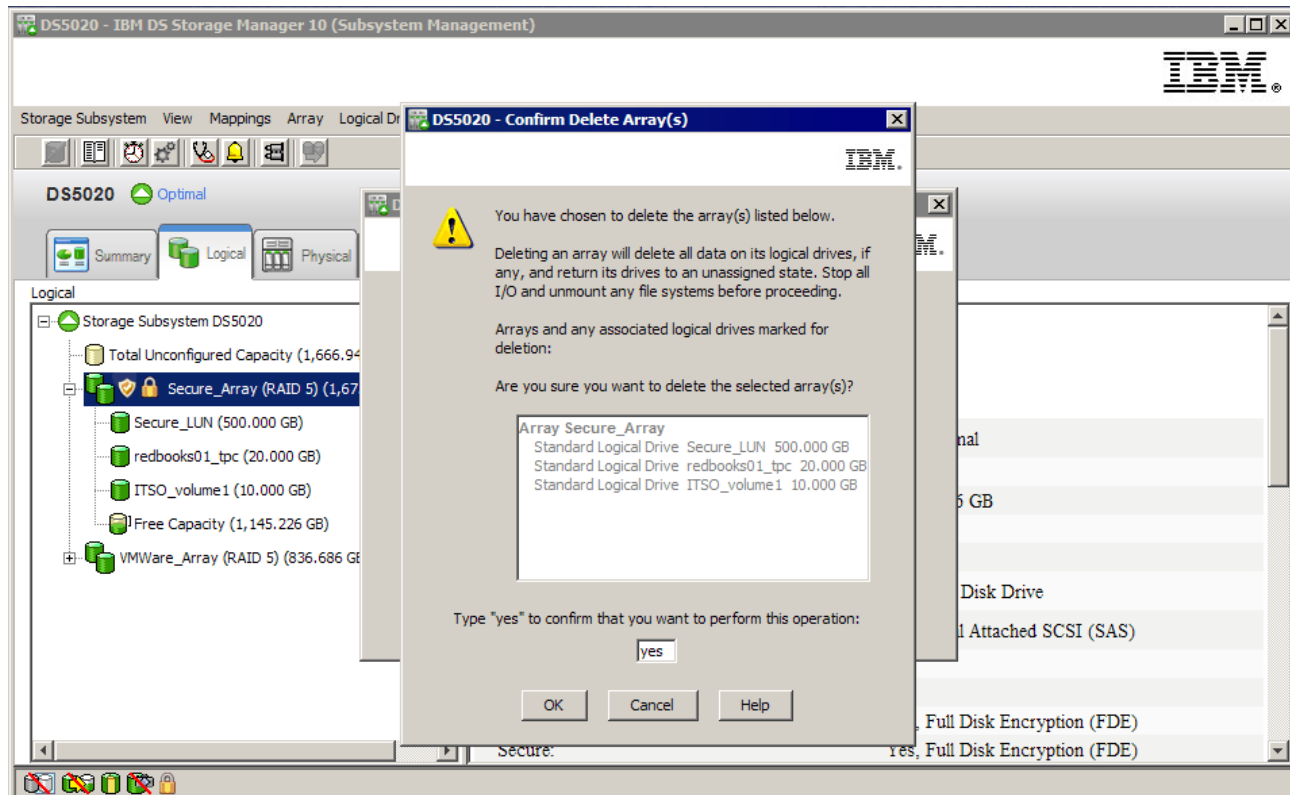

Figure 3-124 Delete confirmation screen
- Now we will need to confirm that we truly want to delete the selected array and its logical drives. In Figure 3-124 you will need to type “yes” and select **OK** to continue.